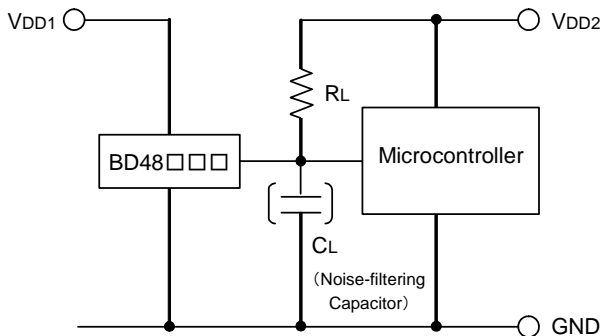

Fig.1 Open Collector Output Type
The power supply of the microcontroller (VDD2) differs from the power supply of the reset detection (VDD1). Use the open drain output type (BD48□□G/FVE) attached a load resistance (RL) between the output and VDD2. (As shown Fig.1)